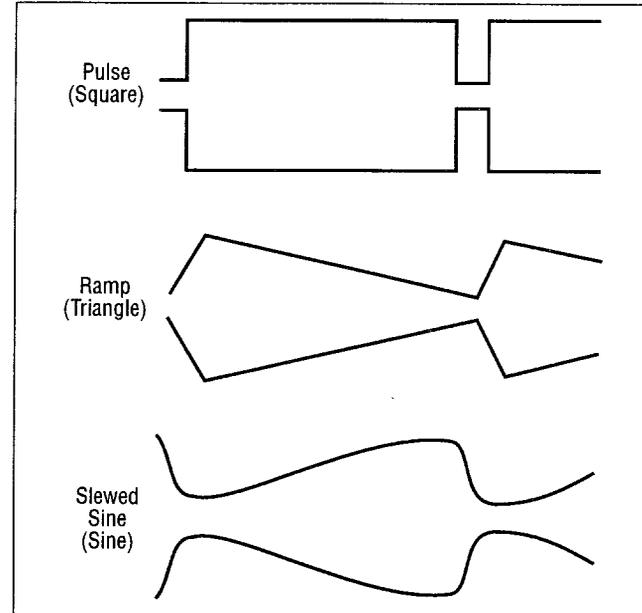

Figure 4. Effects of Symmetry Variation.
The **DUTY CYCLE** control can be used to alter the symmetry of the output waveform, to produce waveshapes such as those shown in Fig. 4. For a square wave, symmetry variation amounts to changing the duty cycle (ratio of "high" to "low" time), effectively converting the instrument into a pulse generator. For a triangle wave, the result is a ramp, and with a sine wave, a distorted waveshape called a slewed sine is produced. The Model 4011 provides for symmetry variation from 15% to 85%.
2. Engage the **DUTY CYCLE** switch (14) and adjust the **DUTY CYCLE** control (10) for the desired waveshape. Clockwise rotation from center results in an increase in square wave duty cycle, and changes the sine and triangle waves as shown in the top waveform of each pair of Fig. 4. Counter-clockwise rotation results in the bottom waveform in each pair.